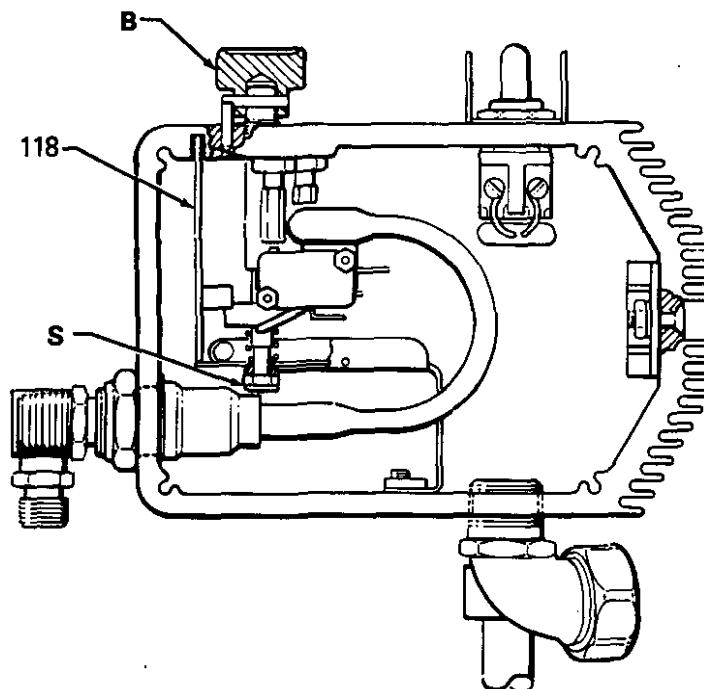

Fig 25
3. Remove the plug from the top of the fluid filter, and install the test gauge (W).
6. Use a 9 mm (3/8") ignition wrench to turn the pressure adjustment nut (S) counterclockwise about **two** full turns. See Fig 25.
7. With the pressure control knob (B) at the **minimum** setting, turn the sprayer switch ON.